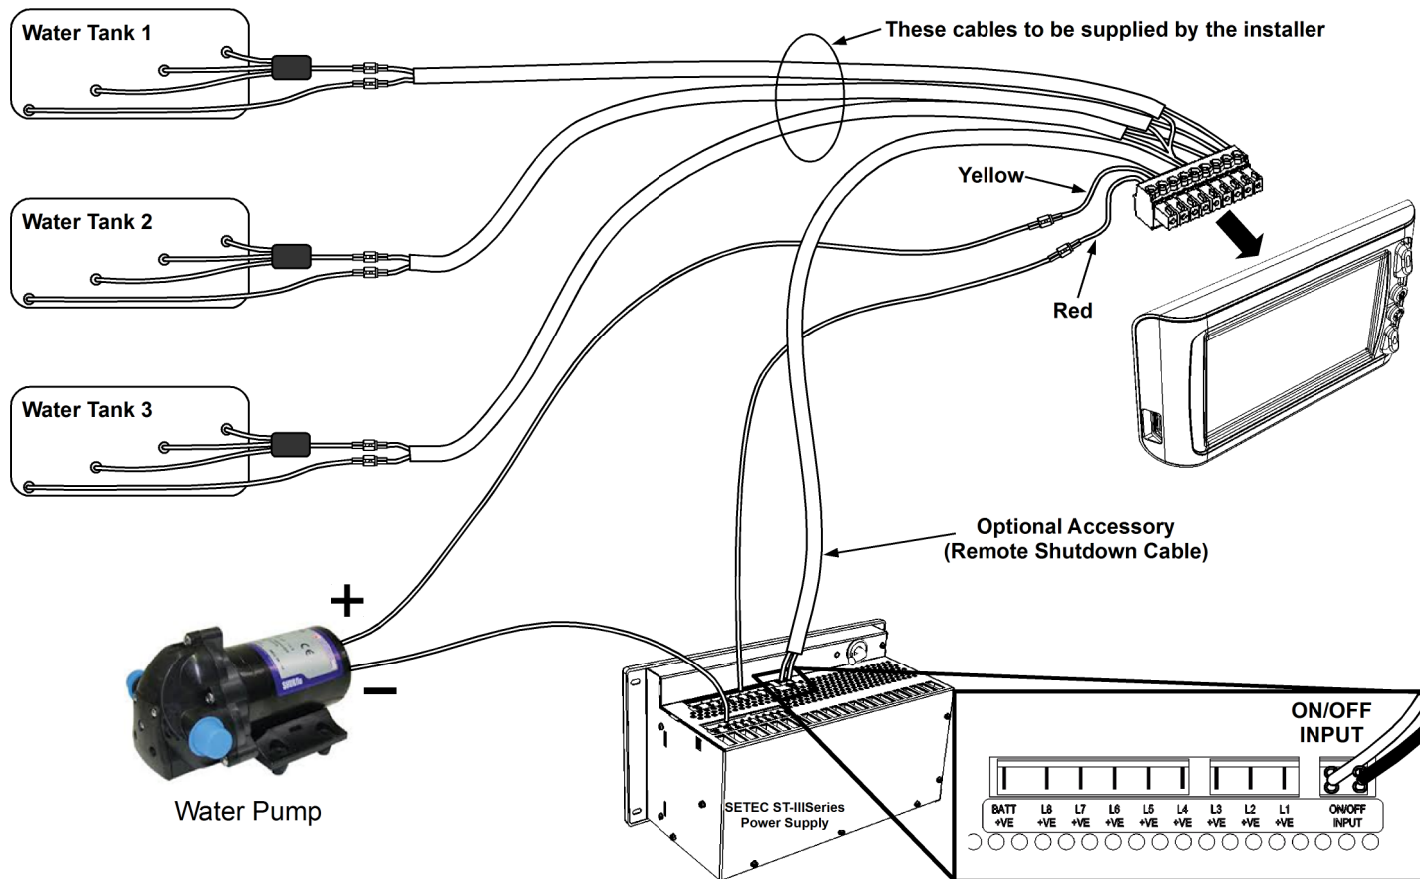

Figure 7: Tank, pump, and remote switch connection for ST-III Series Power Supplies
- (e) Connect the pump and remote on/off switch as detailed in Figure 7 (assuming Setec ST-III series power supply is used). If used with other power supplies, connect according to Figure 8.